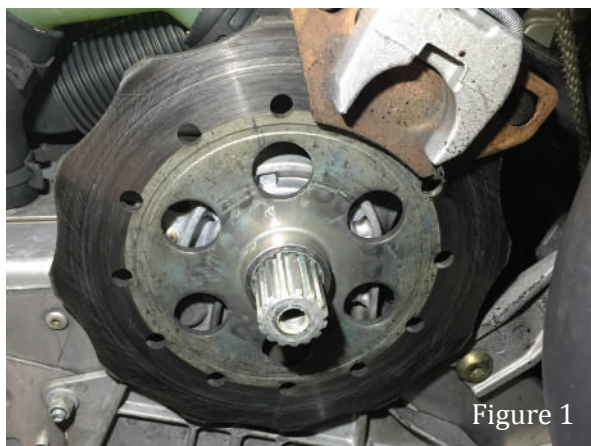

Figure 1
2. Remove stock gears and belt. See fig 1.